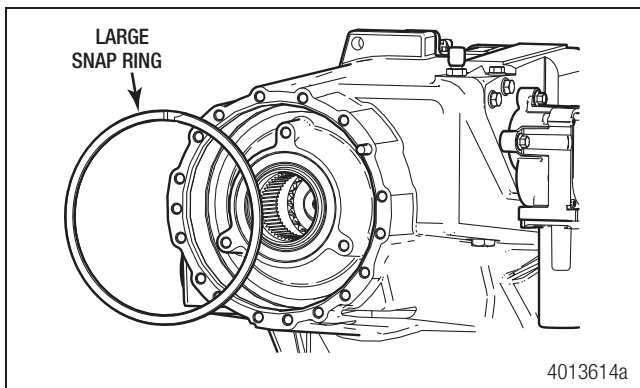

Figure 4.25
28. Position the front case half in a stand with the bearing cage facing up. Remove the large spiral snap ring from the front of the bearing cage. If the bore becomes scratched or damaged when the snap ring is removed, use emery cloth or steel wool to gently smooth out the surface. Figure 4.25.